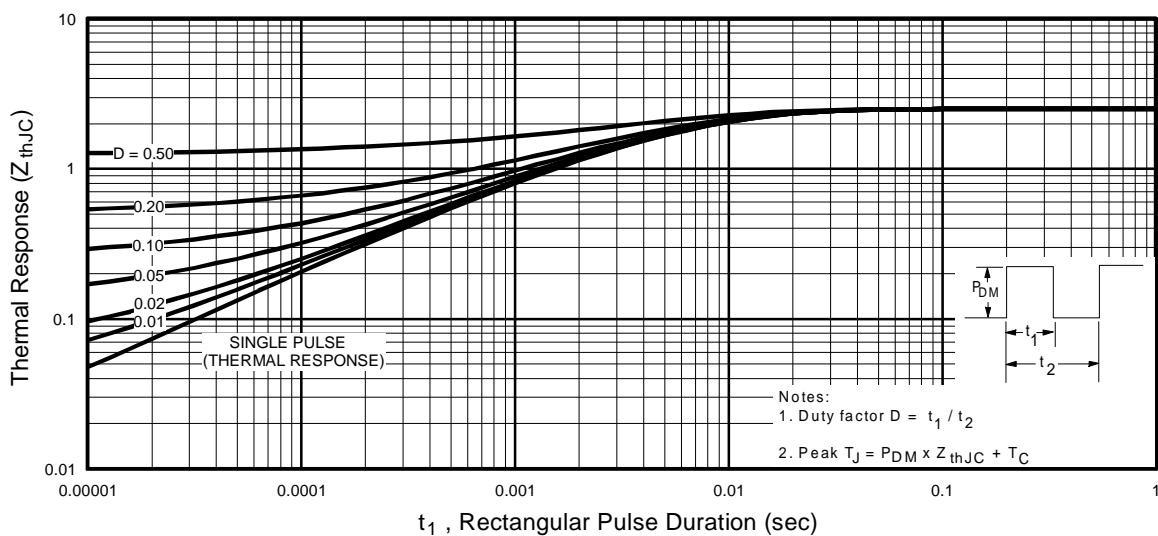

Fig 11. Maximum Effective Transient Thermal Impedance, Junction-to-Case
① Repetitive rating; pulse width limited by max. junction temperature. (See fig. 11)
③ $I_{SD} \leq 11\text{A}$, $di/dt \leq 110\text{A}/\mu\text{s}$, $V_{DD} \leq V_{(\text{BR})\text{DSS}}$, $T_J \leq 150^\circ\text{C}$